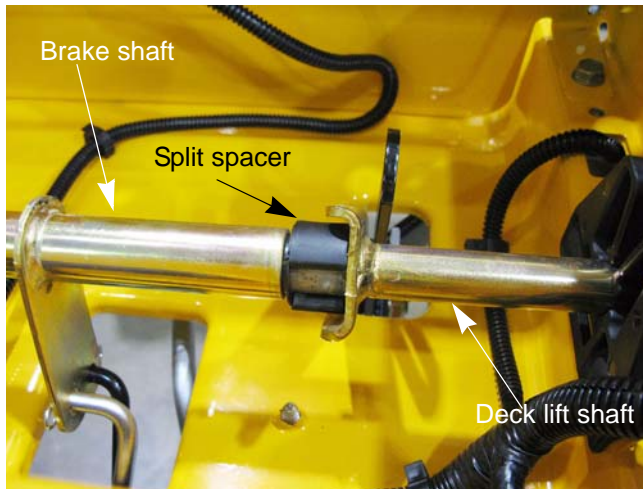

Figure 4.13
9. Remove the split spacer from the right side of the deck lift shaft. See Figure 4.13.